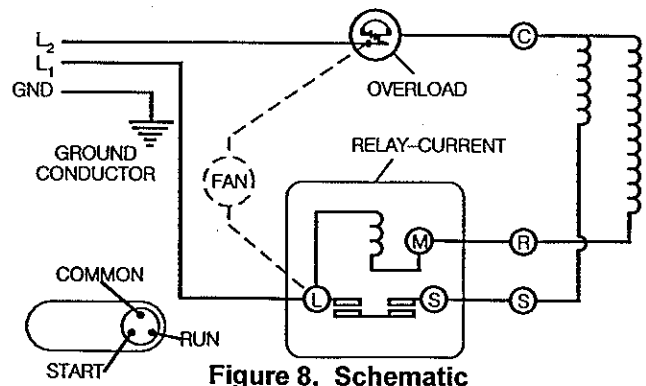

Figure 8. Schematic
- Check relay (See Figure 8.) Unscrew lead terminals and remove relay from compressor. (NOTE: keep relay upright)
- Check compressor windings as shown in Figure 8.